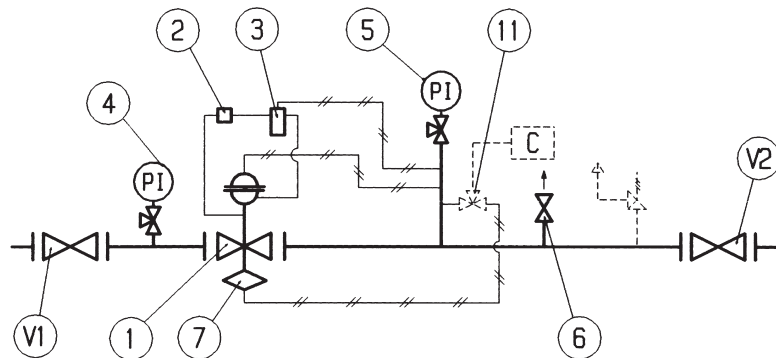

Fig. 16
**5.4 COMMISSIONING THE REGULATOR WITH INCORPORATED VB/93 SLAM-SHUT (FIG. 16)**